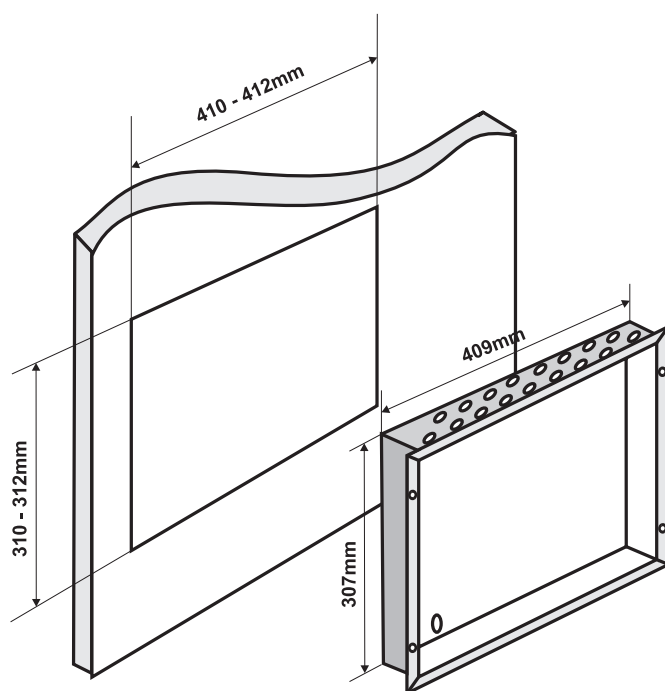

Figure 4. Dimensions of the metal bottom and the mounting hole.
- Use given on Figure 4 dimensions to outline and to cut the mounting hole in the drywall.